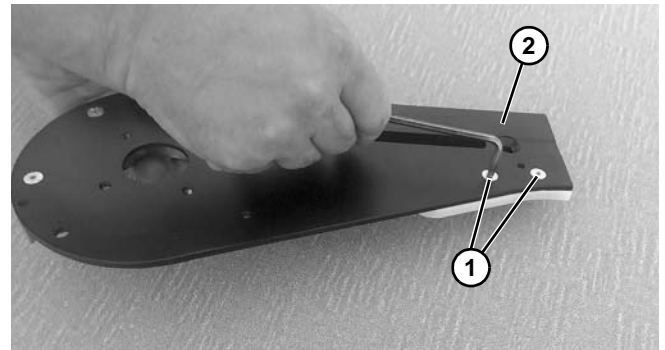

Figure 123
2. Remove two screws (Figure 123, item 1) from outer plates (Figure 123, item 2).